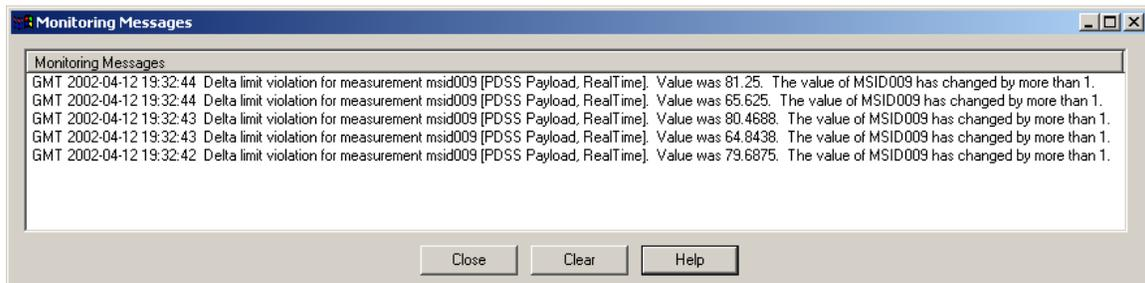

Figure 15 Monitoring Messages
4. Right now we don't have any messages. That's because we aren't receiving any data, so there isn't any data to monitor, and therefore no messages have been generated. Go to the Telemetry Trainer application and send packet 7. Wait a few seconds and you should start to see some messages. Figure 15 shows an example of a monitoring message.